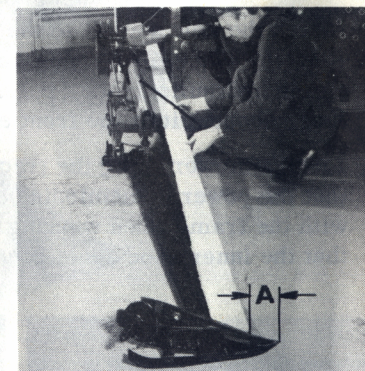
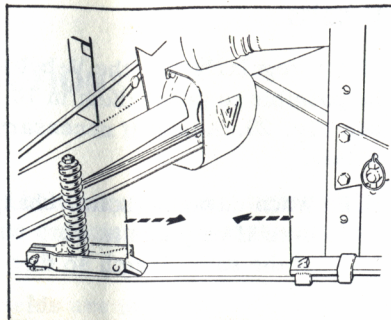

Fig. 14
Fig. 21
- Place a board along the cutter bar, see Fig. 14. When the board lies against the vertical parts of the lifting frame, the point of the outer shoe should lie 80 mm in front of the edge of the board - dimension A, Fig. 14.
The tension of the overload release spring, Fig. 21, is set at the factory so that the release is actuated by any sudden jerk or snatching motion of the outer end of the cutter bar. If the overload release trips too soon the spring can be retensioned. When setting the overload release, check that the cutter bar is correctly positioned, see Fig. 14.